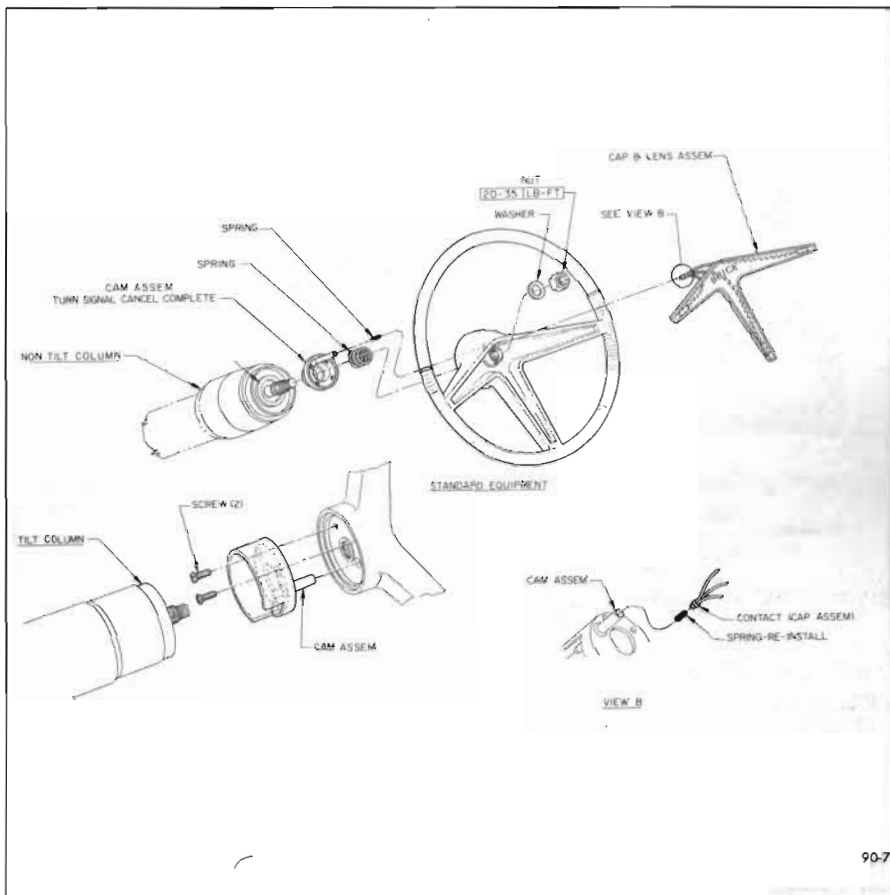
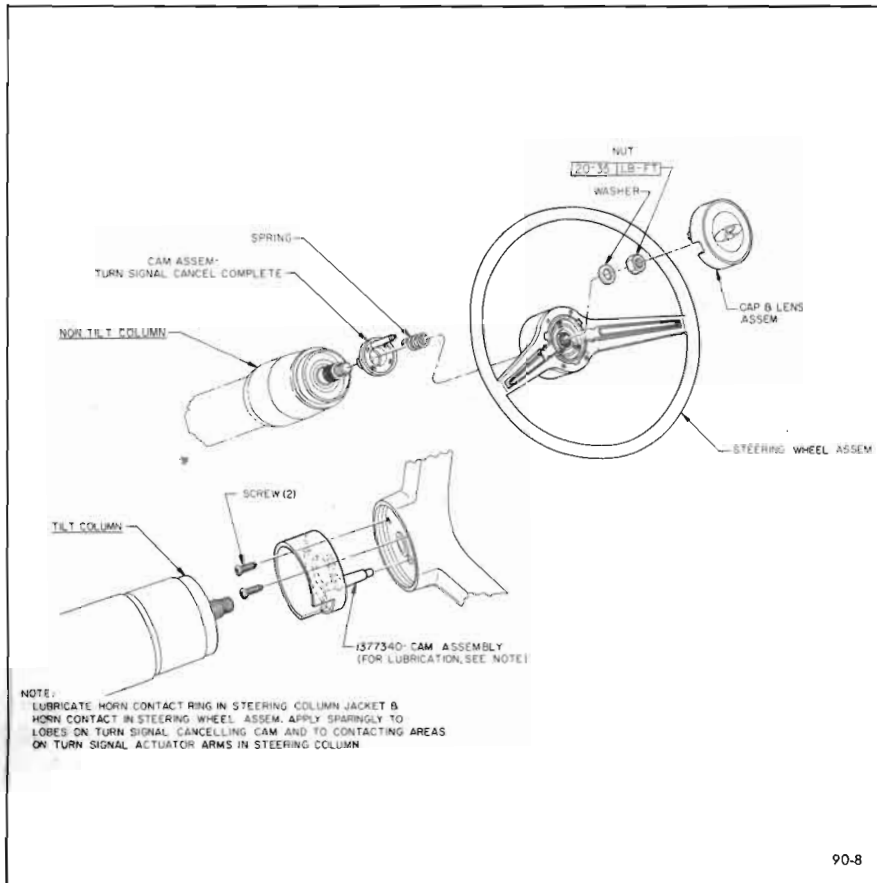

Figure 90-7—49000 Steering Wheel Assembly
Figure 90-8—49000 Optional Steering Wheel Assembly
5. On 49000 Series, remove cap and lens assembly and pull out lead plug in steering wheel. See Figure 90-7. On 49000 Series with optional wheel, remove cap and lens assembly. See Figure 90-8.